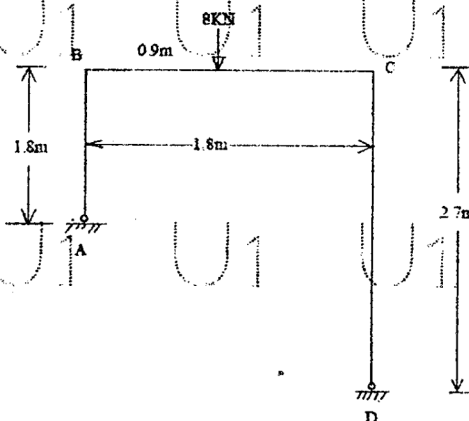

Figure: 7
9. Analyse the portal frame ABCD as shown in Figure 7. The ends A and D are hinged. $EI = \text{constant}$ for the entire frame. Draw the BMD. (Use Slope Deflection Method). [10]